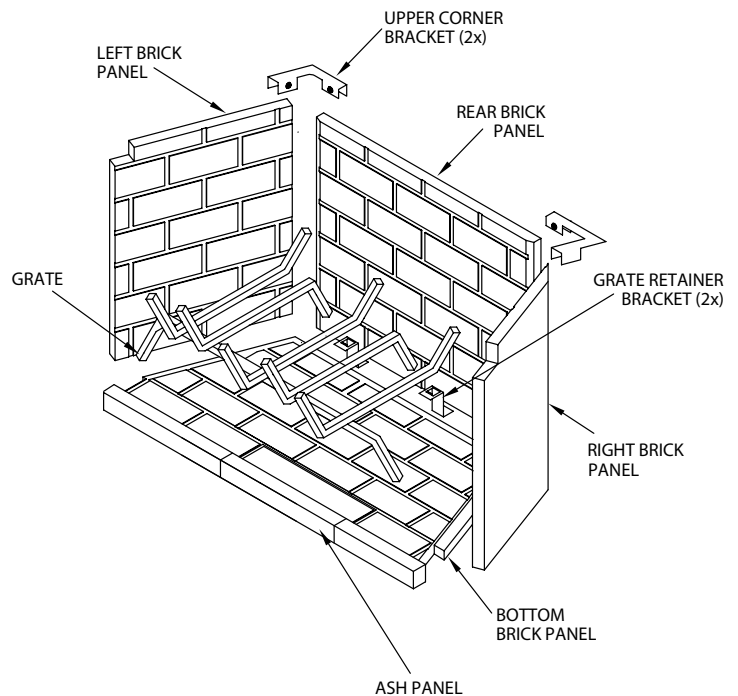

Figure 32 - Installing Refractory Panels
6. Install the upper corner brackets and tighten set screws (Figure 32).
7. Install grate by placing rear legs into slots in the grate retainers (Figure 32).